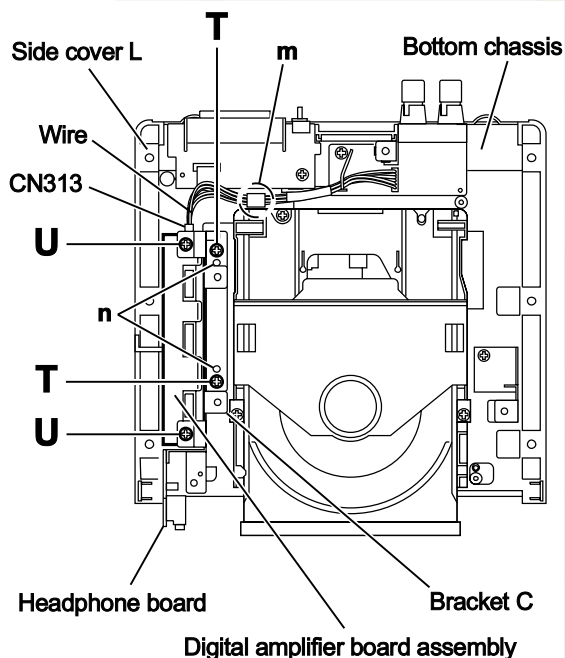

Fig.18
(See Figs.18 to 20)
(1) From the back side of the main body, disconnect the card wire from the connector **CN313** on the digital amplifier board assembly. (See Fig.18.)
When connecting the wire, connect the wire to connector **CN313** on the digital amplifier board assembly after pass it through the section **m** of the side cover L. (See Fig.18.)
(2) From the top side of the main body, remove the two screws **T** and two screws **U** attaching the bracket C. (See Fig.18.)
(3) Take out the bracket C with the headphone board from the main body.
When attaching the bracket C to the bottom chassis, attach it after fitting the holes to the projections **n** of the bottom chassis. (See Fig.18.)